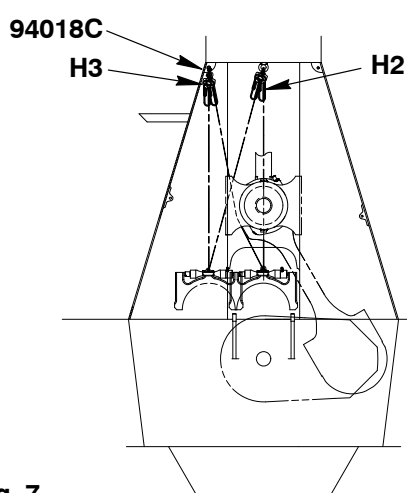

Fig. 7
- 4) Attach the chain block (H3, Fig. 7) to the column.